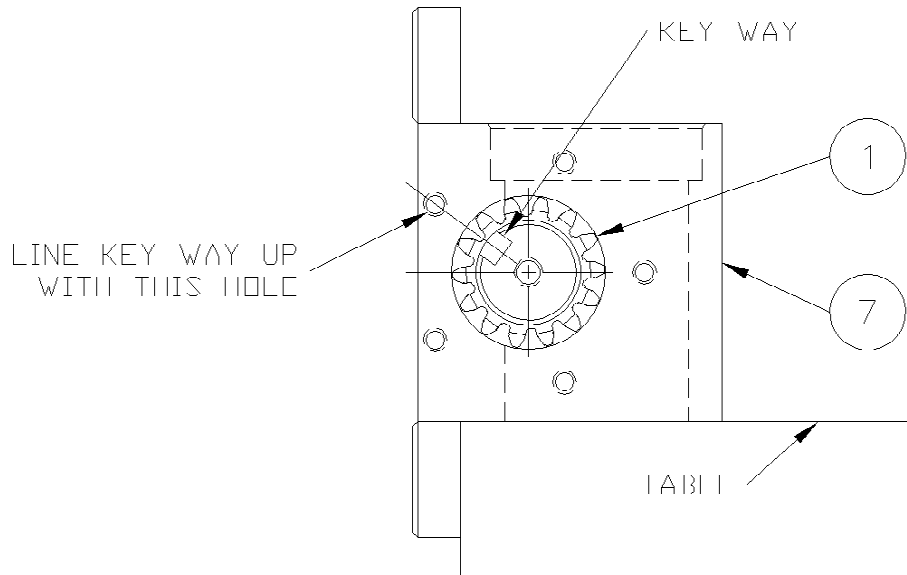

figure A-4
- Place the actuator body (7) (fig. A-4) on the edge of the table, mounting flanges closest to the assembler with the counter-bores facing up. Insert the pinion shaft (1) through the bore on either side of the actuator body with the key ways facing back toward the mounting flanges and up away from the table with the center line of the key ways pointing toward the center of the tapped hole shown in figure A-4. Center the pinion in the actuator body.